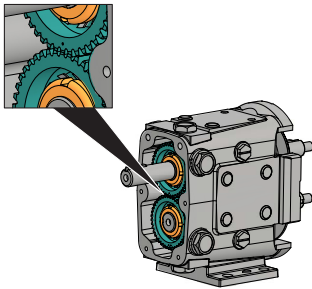

Figure 60 - Timing Gear Marks
3. Slide the short shaft gear onto the short shaft. The short shaft gear has two punch marks on the gear. Straddle the single punch mark of the spur drive gear with the two punch marks on the short shaft gear (Figure 60).